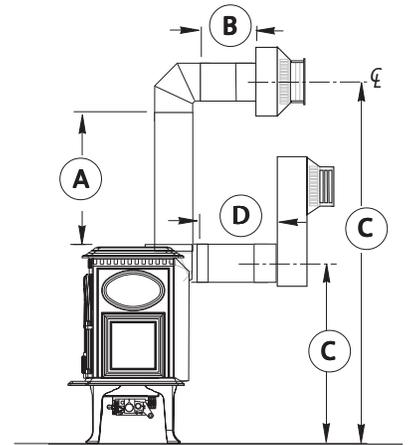

Figure 4. Check these critical dimensions for horizontally terminated vent systems.
Snorkel caps are available for horizontal terminations that require some vertical clearance. See figure 4.
- Check the minimum and maximum horizontal run limitations of the particular stove you are considering. See fig. 4.
- Any horizontal run of vent must have a 1/4" vertical rise for every foot of horizontal run toward the termination cap. Be sure to include this rise factor when determining the center of the wall cut-out, fig. 4, C. Never allow vent pipe to slope downward to the termination as high temperatures may create a hazardous condition.